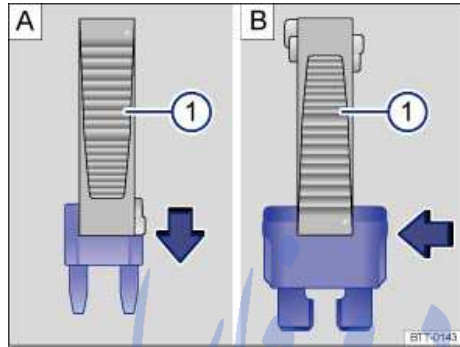

Fig. 172 Removing or installing a blade fuse with the plastic tweezers: A: MINI. B: ATO.
- *For blade fuses:* Depending on the type of fuse, slide the tweezers ⇒ fig. 172 A \(1\) or ⇒ fig. 172 B \(1\) onto the fuse in the direction of the arrow.